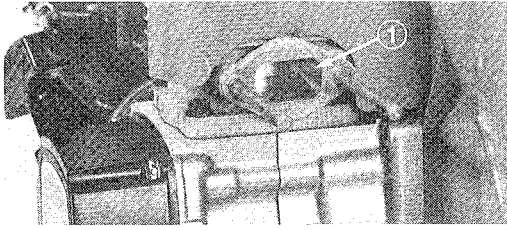

Figure 10
2. Remove two (2) flange nuts and one (1) screw securing muffler and gasket to blower.
4. Rotate the engine crankshaft until the piston totally covers the exhaust port (Fig. 10).